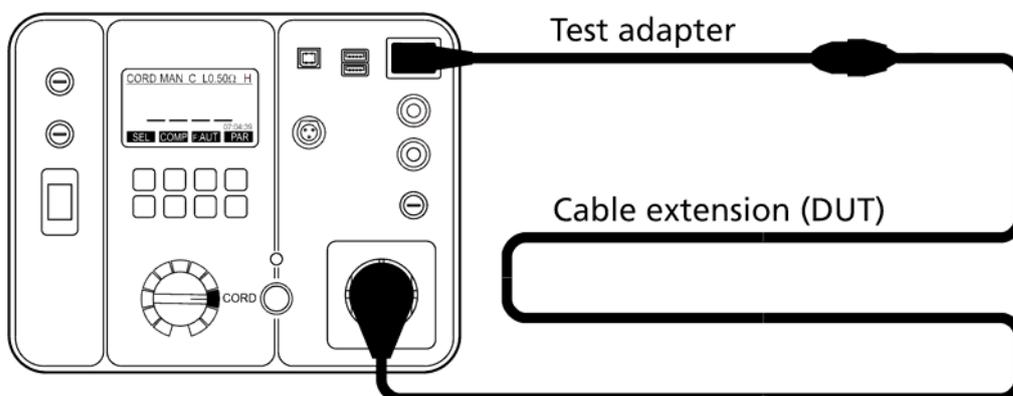
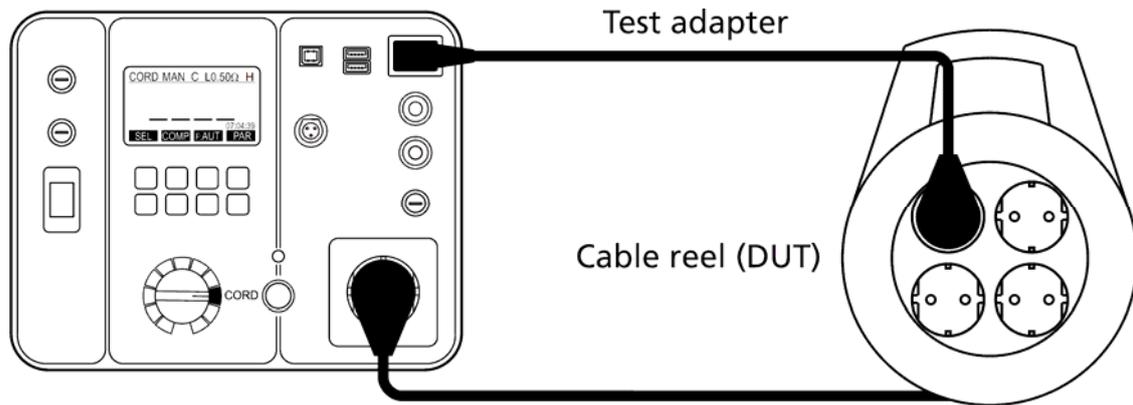

Figure 34: Cable extension test connection
Figure 35: Cable reel test connection
An additional test adapter is used when testing cable extensions (see the figure 34), multiple sockets or cable reels (see the figure 35). That is why the adapter shall be compensated prior to carrying out the cable extension or cable reel test. The symbol "C" (compensated (8)) must be present on the upper line, see the figure 32 – left picture. Any good IEC cord could be used as test adapter.
- Connect the cable extension or cable reel according to the figure 34 or 35 below. Use compensated standard IEC cable as a test adapter to connect tested cable extension or cable reel to IEC connector (14) of the GT-900/GT-650 tester.